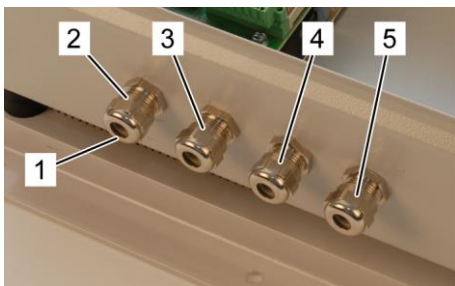

Fig. 76: Types of cable glands
4. Loosen the pressure screw of the cable glands (Fig.76/1).
5. Always connected by the manufacturer: Guide the bus cables from the Terminal boxes through both the cable glands in the middle (Fig.76/3+4) into the Line Converter box.
6. Guide the bus cable to the Indication unit (LT2004D0) through the cable gland on the left (Fig.76/2) and the power supply through the cable gland on the right (Fig.76/5) into the Line Converter box.